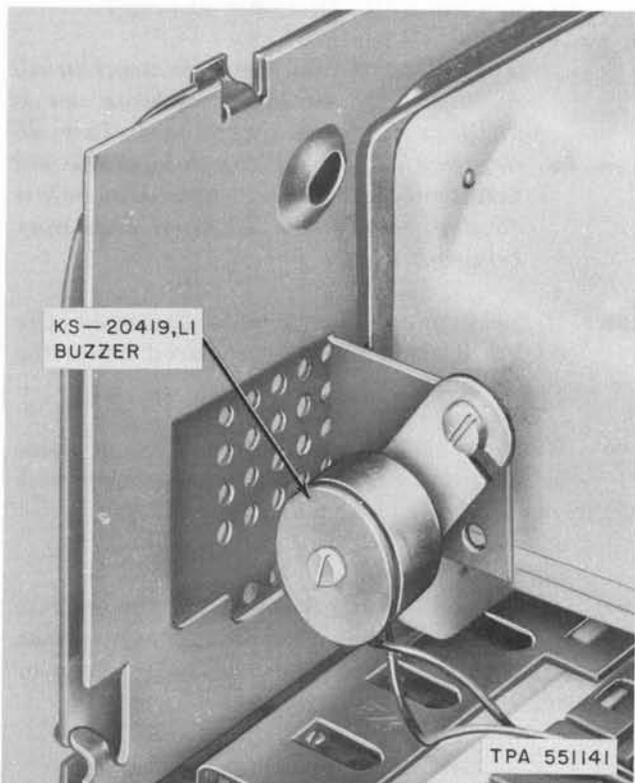

Fig. 15—Buzzer Mounting, Current Model
2.14 Earlier models of 6-button key panel sets were equipped with a buzzer mounting bracket in the upper left corner which would accommodate either KS-8100 type or KS-20419L1 buzzer. In current sets the bracket is eliminated and a KS-20419L1 buzzer can be mounted as shown in Fig. 15, using a No. 8 by 1/4-inch self tapping screw.